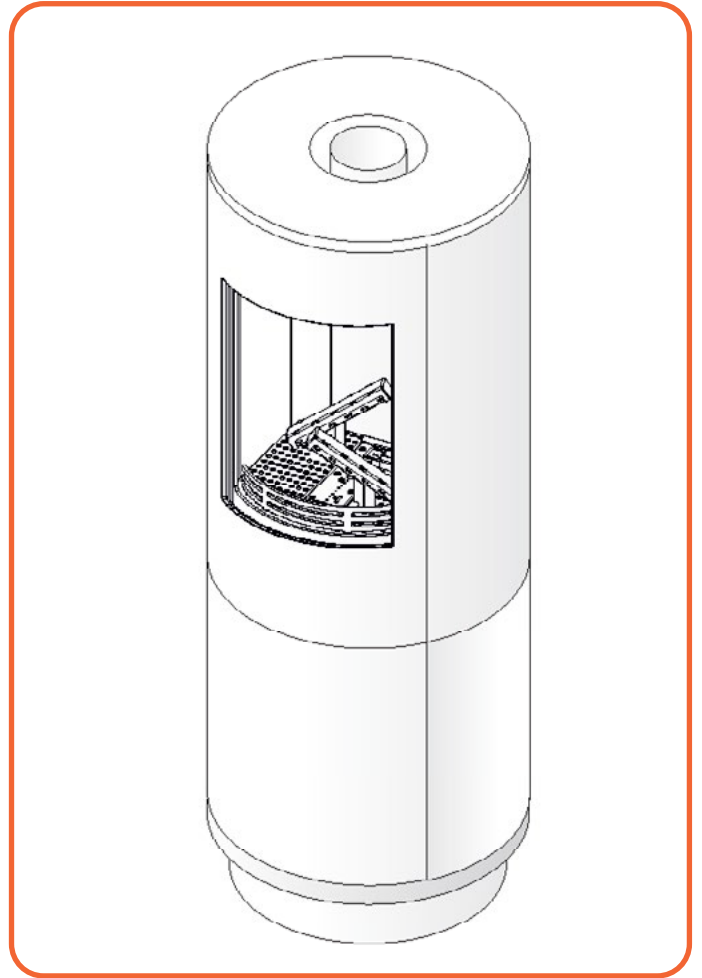
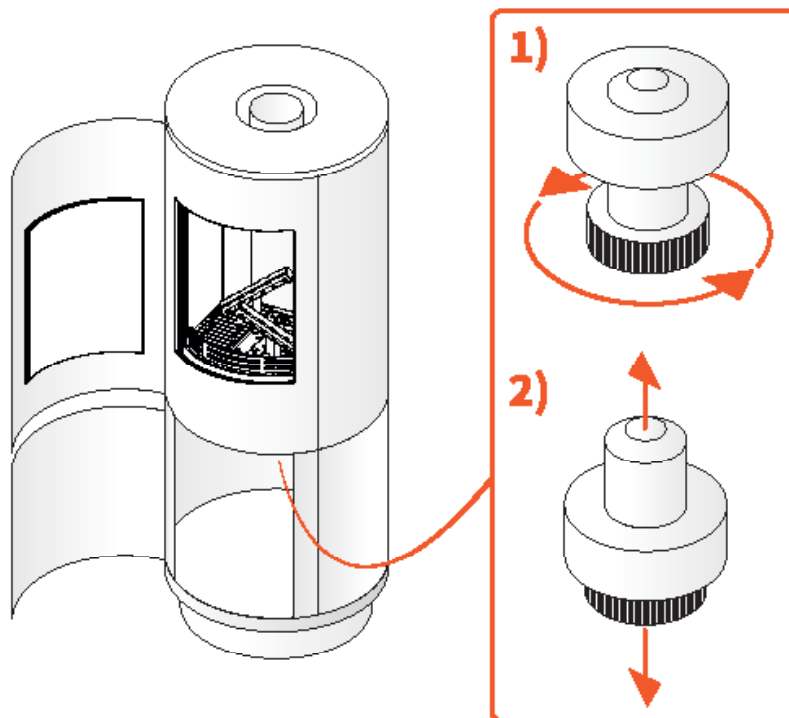

Figure 10.1 - Isometric Illustration
Figure 10.2 - Isometric Illustration
9.1 Vertical Terminations - clearances and requirements (Figure 10.1 & Figure 10.2)
The Ovation fireplace (Figure 10.1) is easy in maintenance. The front of the fireplace has two doors which can be opened easily.
The combustion chamber can be opened via the bottom door. In the right corner a pin is situated that can be turned and pulled out to unlock the top door (Figure 10.2). This door, similar to the bottom door, can now be opened by pulling it from the right side.